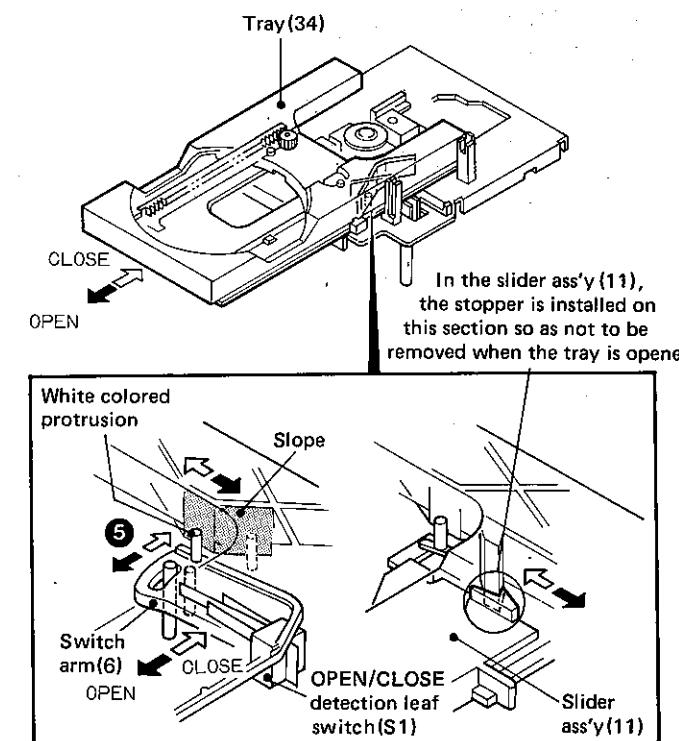

Fig. 4 Each limit switch when opening/closing the tray
Fig. 4 shows the condition when the tray is completely opened. The tray is "sloped" as shown in the figure. When the tray moves in the direction of the black arrow ⑤ OPEN direction, the white protrusion climbs the "slope" to short the OPEN/CLOSE detection leaf switch(S1) in the reverse direction of the STOP condition, then informs the microprocessor that the OPEN operation has completed and to stop the rotation of the loading DC motor(43).
- 1) Attach the collars firmly on both sides of the tray to the four section supporting and guiding the tray as shown in the Fig. 4.